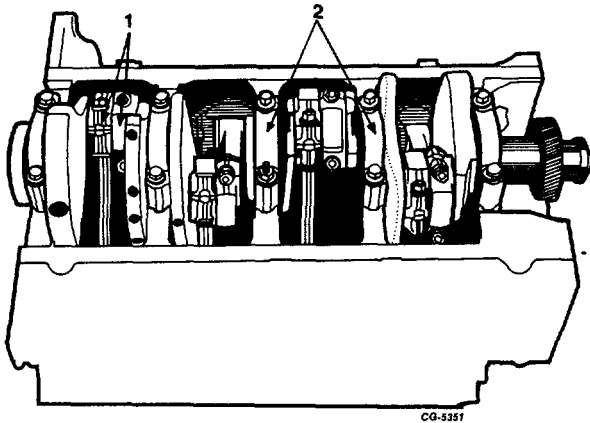

Fig. 58 Positioning Connecting Rods for Removal
65. Rotate the crankshaft to position the journals for removal of the connecting rod assemblies, Figure 58.